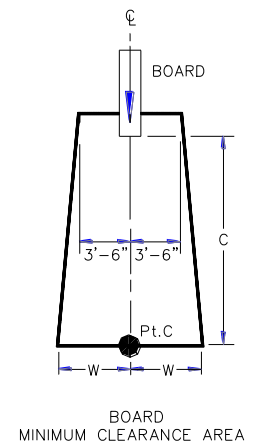

Figure 17
- A. The minimum clearance area in front of a properly installed diving board on an inground swimming pool is a minimum distance of three feet six inches (3'-6") (1067 mm) on either side of the board's centerline as shown in Figure 17. Pt. C extends a minimum distance of "C" from the tip end of the board as shown in Figure 17. The width distance "W" on either side of Pt. C is given in CHART 1 and shown in Figure 17.